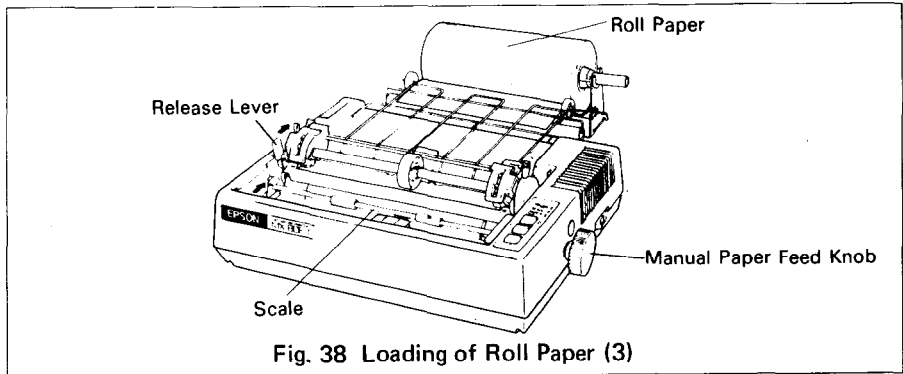

Fig. 38 Loading of Roll Paper (3)
- STEP 7. Lock the release lever and push the scale back into position. (See Fig. 38.)